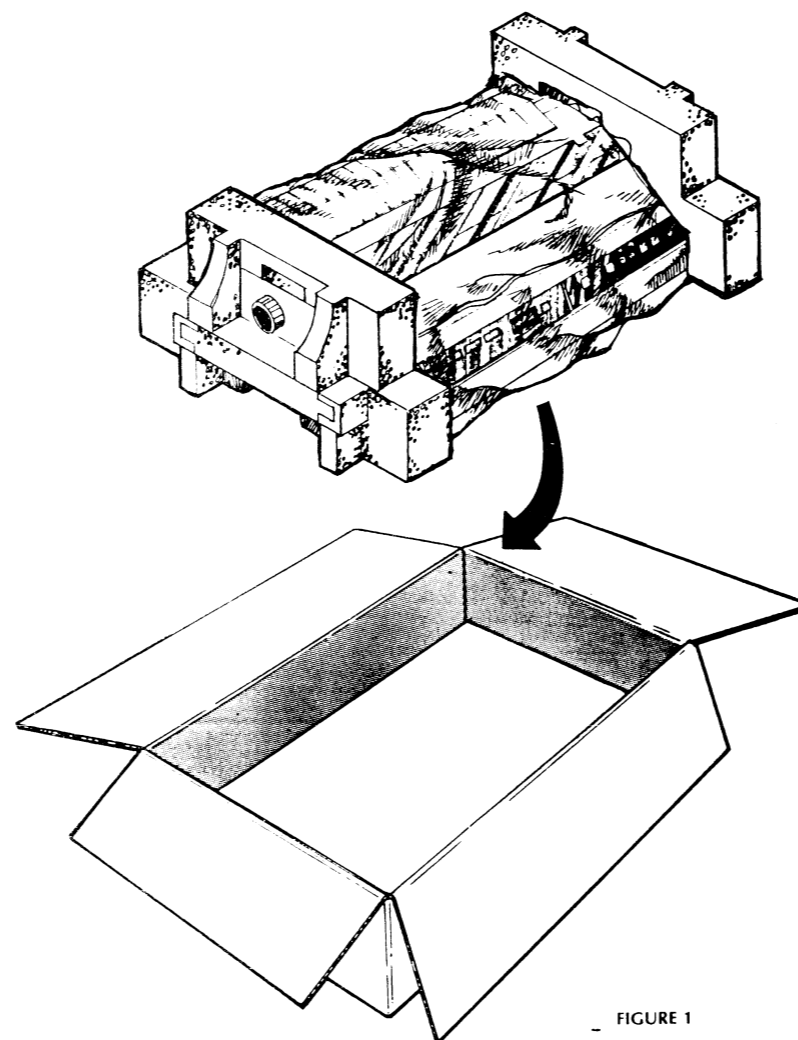

FIGURE 1
- Peel off the sealing tape, open the carton flaps, and remove the attached styrofoam braces (see Figure 1).
- Lift out the printer with its plastic cover (see Figure 1), and put on a sturdy table (one capable of supporting at least 50 pounds).